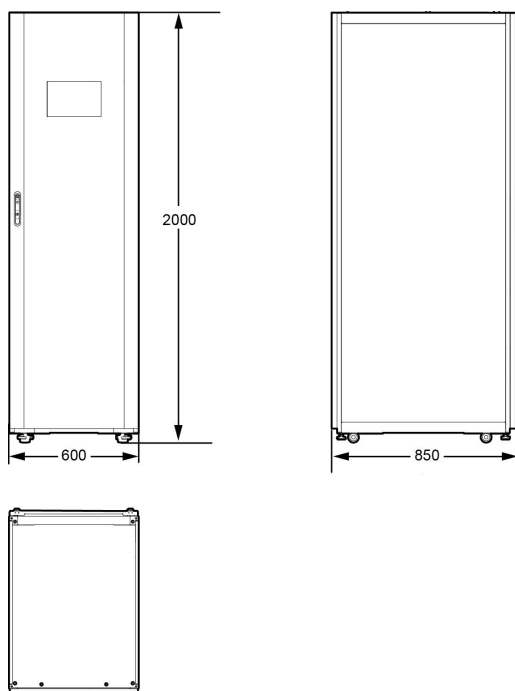

Fig. 2-1 Cabinet dimensions of 200kVA and 300kVA UPSs. (unit: mm)
1) 200kVA and 300kVA UPSs have same cabinet dimensions, as shown in Fig. 2-1.